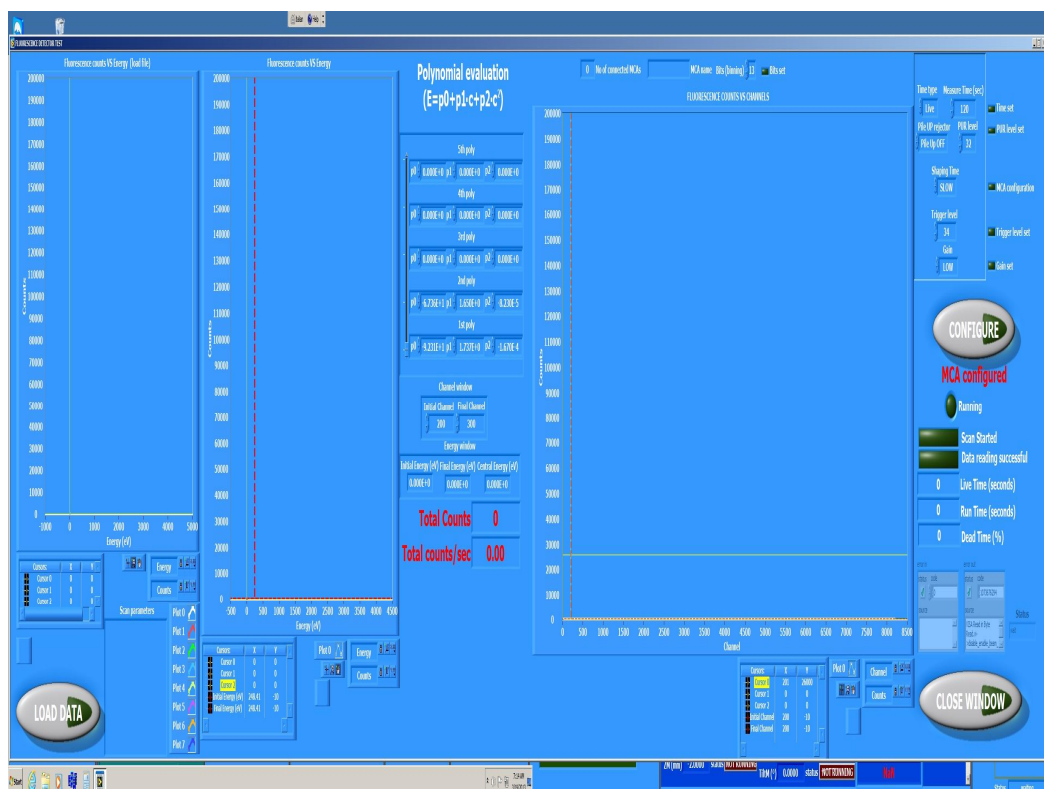

Figure 8: Fluorescence detector main configuration screen.
-Detector configuration: push the **configure** fluorescence detector button on the bottom right of the acquisition software and then again on **configure** on the main configuration screen (see Fig. 8).